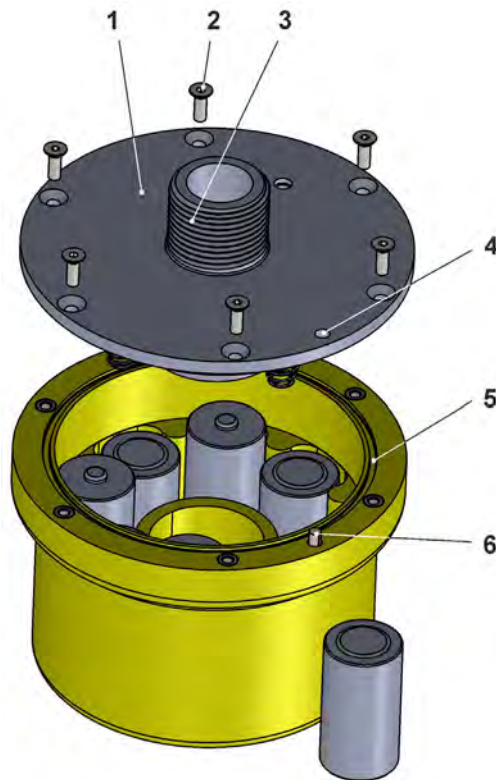

Fig. 23-1 Open / close enclosure
- The countersunk screws Torx TX20 (6x) (Fig. 23-1 Pos. 2) are freely accessible.
2. Unscrew the countersunk Torx TX20 (6x) screws (Fig. 23-1 Pos. 2) **crosswise step by step** (high counter-pressure from the inside due to the batteries/springs, therefore **hold** with your hand **before** removing the last two countersunk screws!) on the housing/battery compartment cover (Fig. 23-1 Pos. 1).
1. Check the enclosure gaskets (Fig. 23-1 Pos. 5) and clean if necessary. Before closing the enclosure/battery compartment cover, always make absolutely sure that the gasket is clean and undamaged. Therefore:
3. Fit the enclosure/battery compartment cover (Fig. 23-1 Pos. 1) (note the alignment bolt (Fig. 23-1 Pos. 6) and corresponding hole (Fig. 23-1 Pos. 4)) and screw it on **crosswise step by step** using the countersunk Torx TX20 (6x) screws (Fig. 23-1 Pos. 2) (high counter-pressure from the inside due to the batteries/springs).